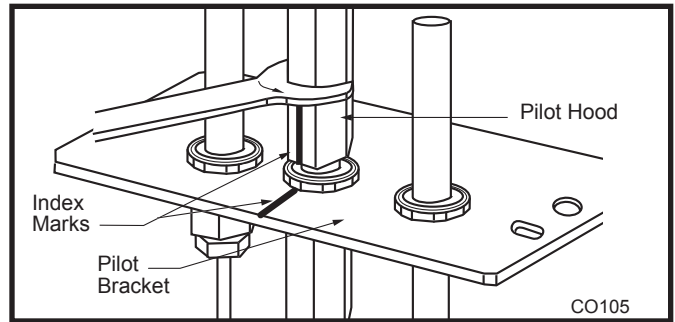

Fig. 72 Remove pilot hood.
11. Loosen pilot hood turning counterclockwise using a 7/16" wrench. (Fig. 72)